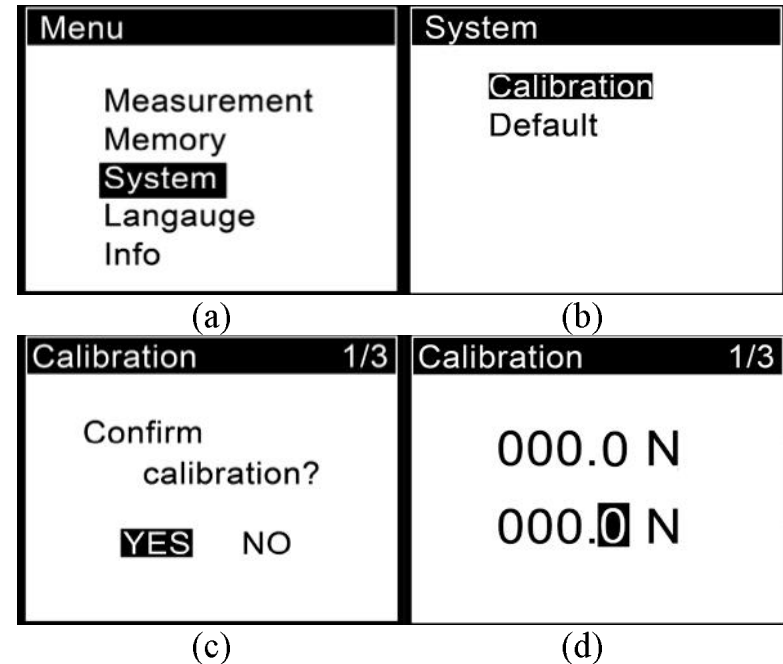

Fig 5-1
① Mount the force gauge.
② Remove the tare by use of the key .
③ Enter Calibration interface, as Fig 5-1.